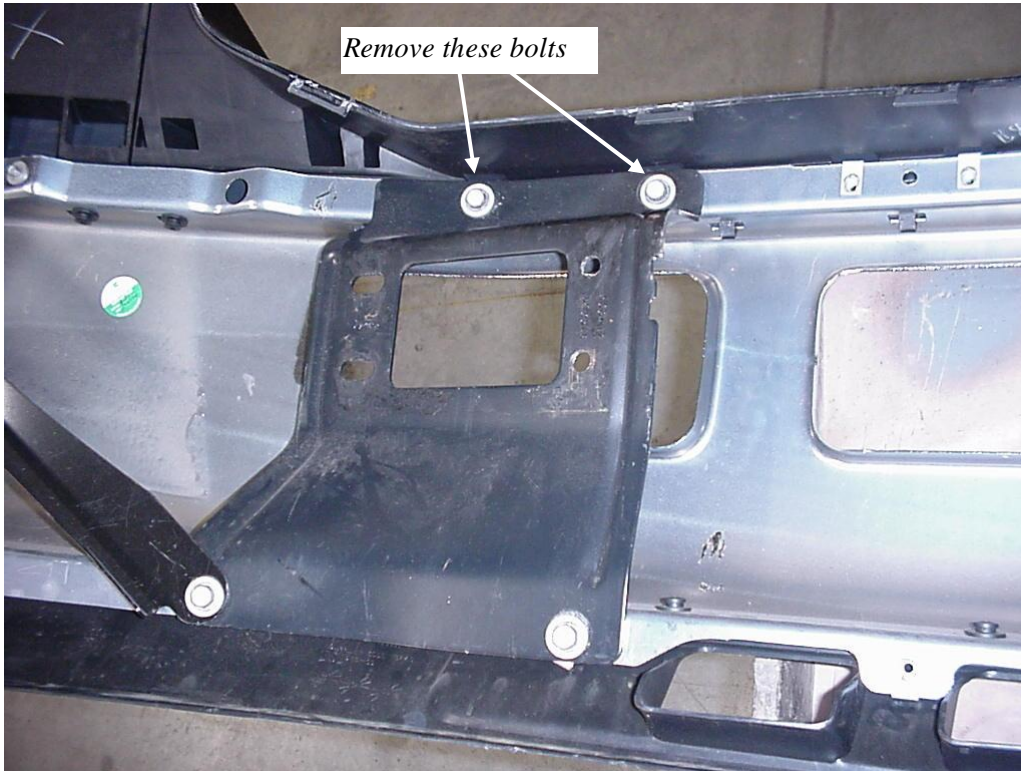

Figure 1 LH bumper bracket bolts
2. Remove the upper bolts from the left and right bumper brackets. **Figure 1.**